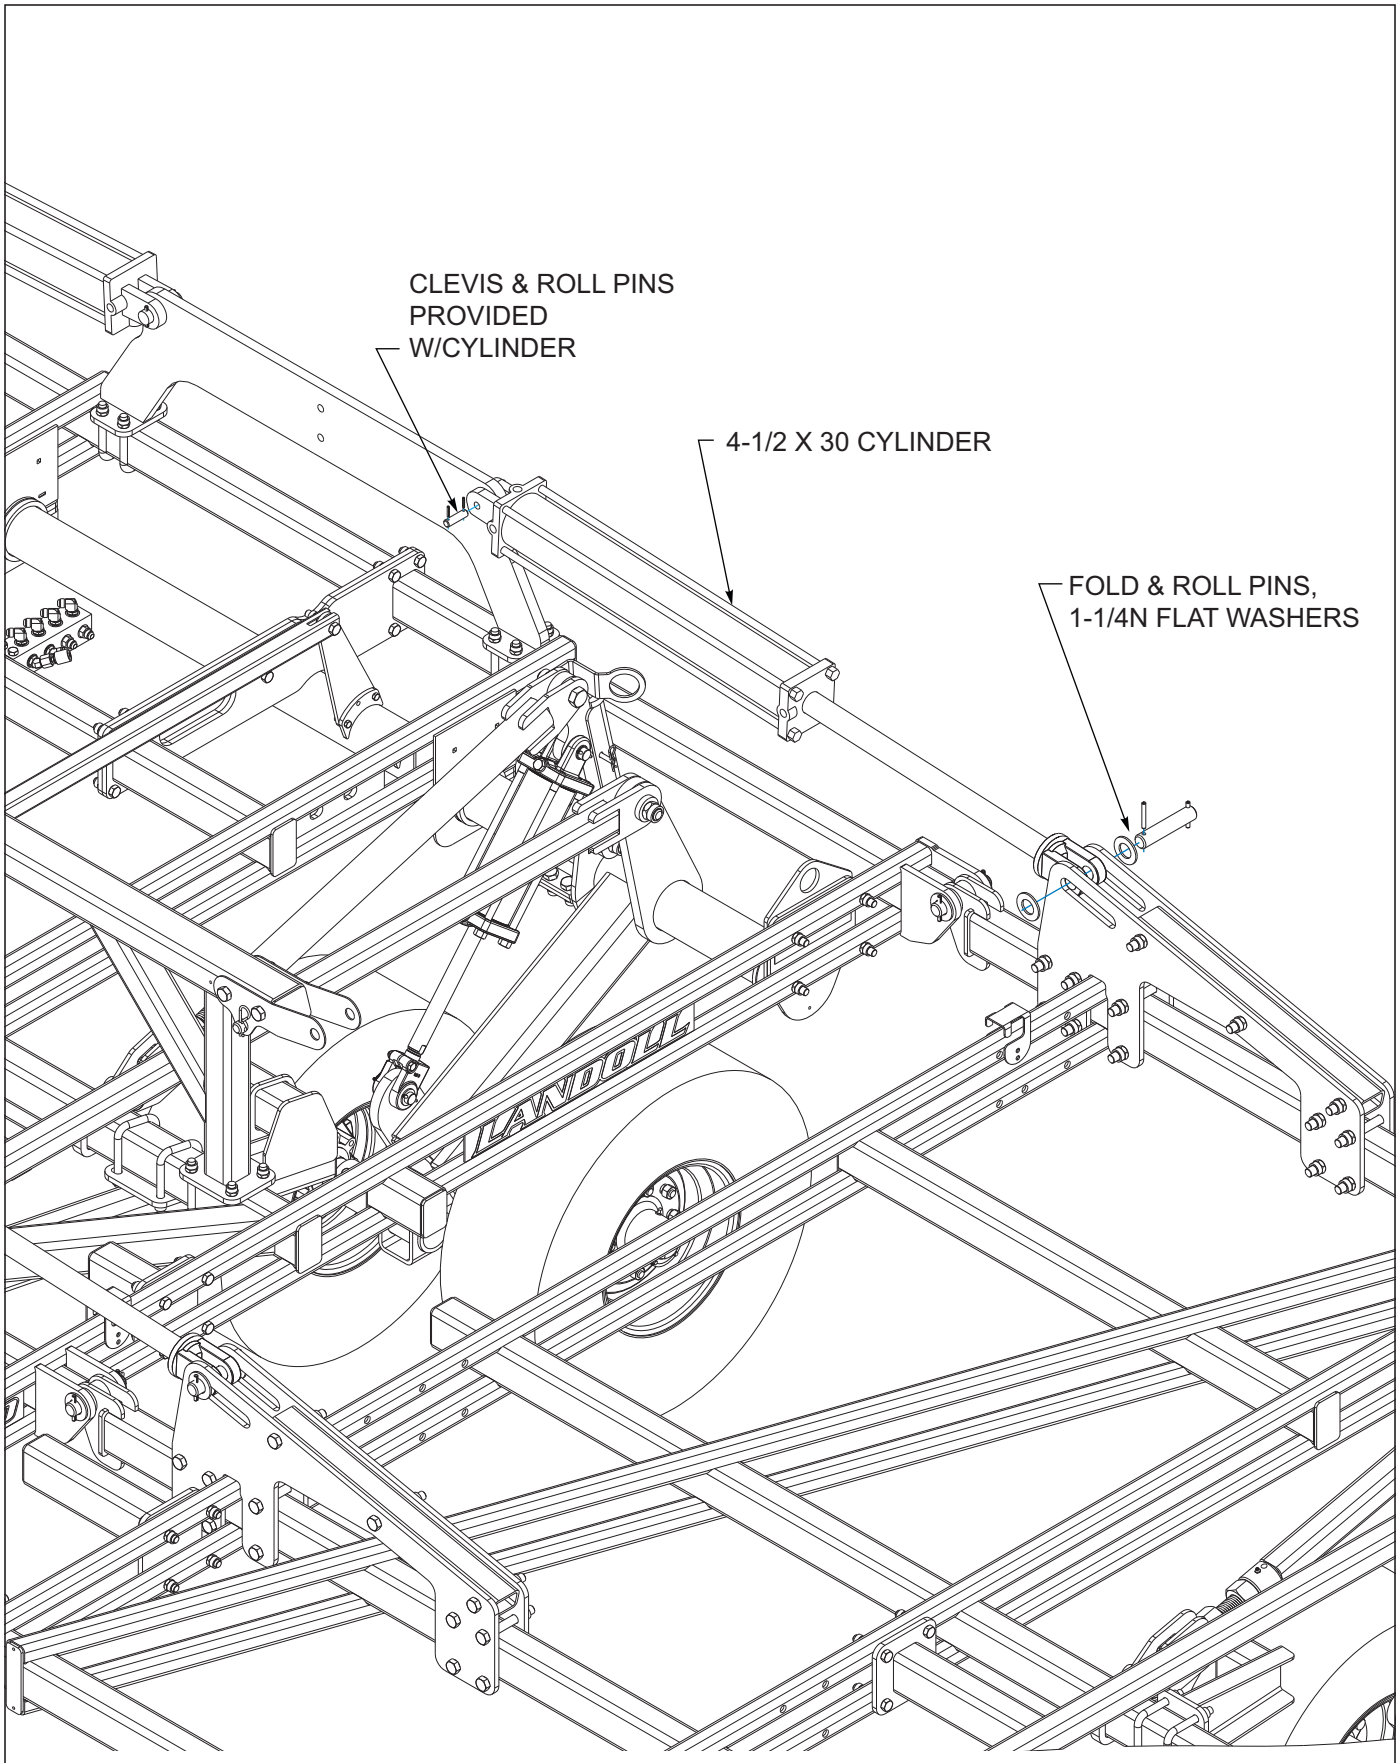

Figure 3-10: Fold Cylinder Installation
2. Using 1-1/4 x 6-1/8 fold pin, 1-1/4N flat washers, and 5/16 x 2-1/2 spring slotted pins, attach the rod end of the 4-1/2 x 30 cylinders to the slotted mounts on the inner wing frames **See Figure 3-10**
3. Using a 1-1/4-7 x 7 hex head cap screw, flat washers, wing extension roller, and hex lock nut, attach the rod end of the 4 x 16 hydraulic cylinders to the fold links on the double hinge **See Figure 3-10** Do not over-tighten screws. Fold links should pivot freely without binding or dragging. Tighten screws to remove excess slack, but still allow fold links to flex, and rotate bolt by hand.